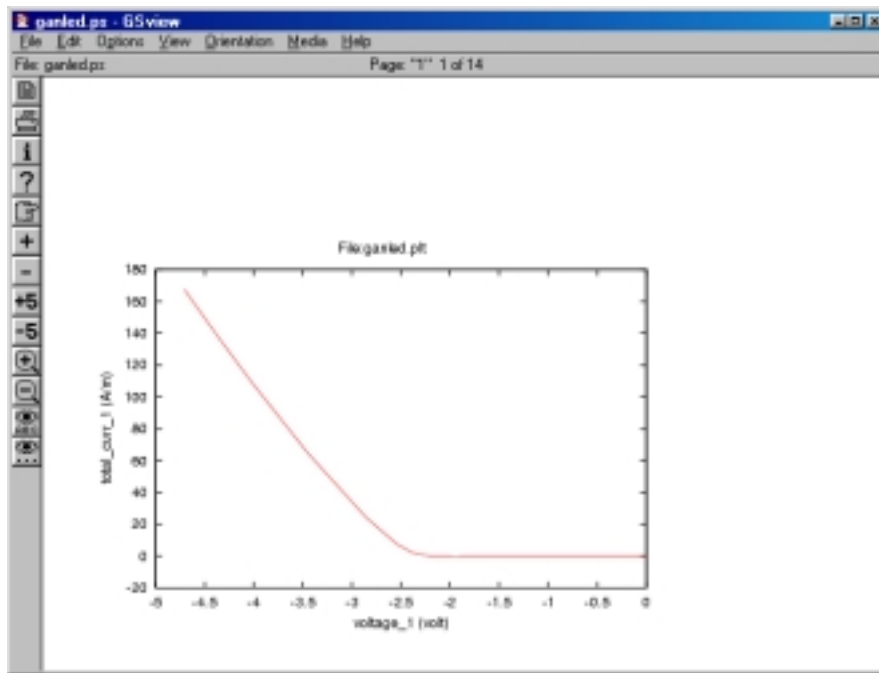

Fig. 16a: LED current-voltage curve.
(6) Double-click on “ganled.plt” to see the plot file. Use the Editing Wizard to check out the plot commands. To plot your results, right-click on “ganled.plt” and select “View Results”. You will see the following plots, some of which indicate strong current crowding near the right edge of column 1 (click on “+” or “-“ to switch):
- current-voltage curve with the current given in A/m for arbitrary device lengths (Fig. 16a)